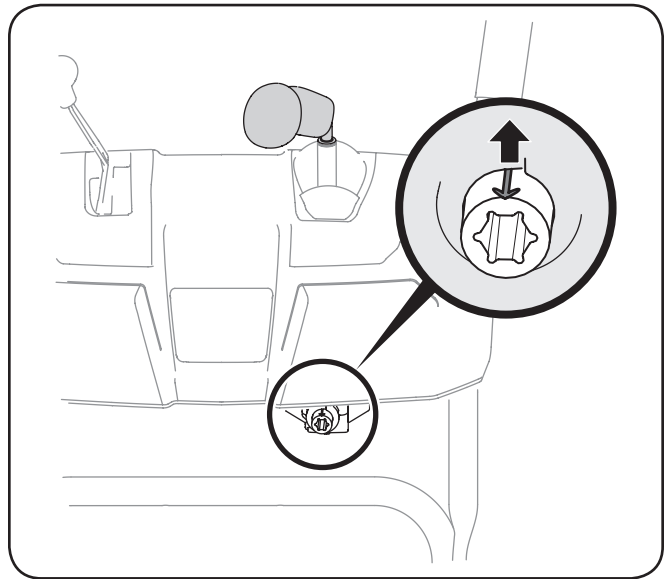

Figure 3-10
- Rotate the joystick to the one o'clock position so that the silver indicator arrow on the pinion gear below the control panel faces upward. See Figure 3-10.